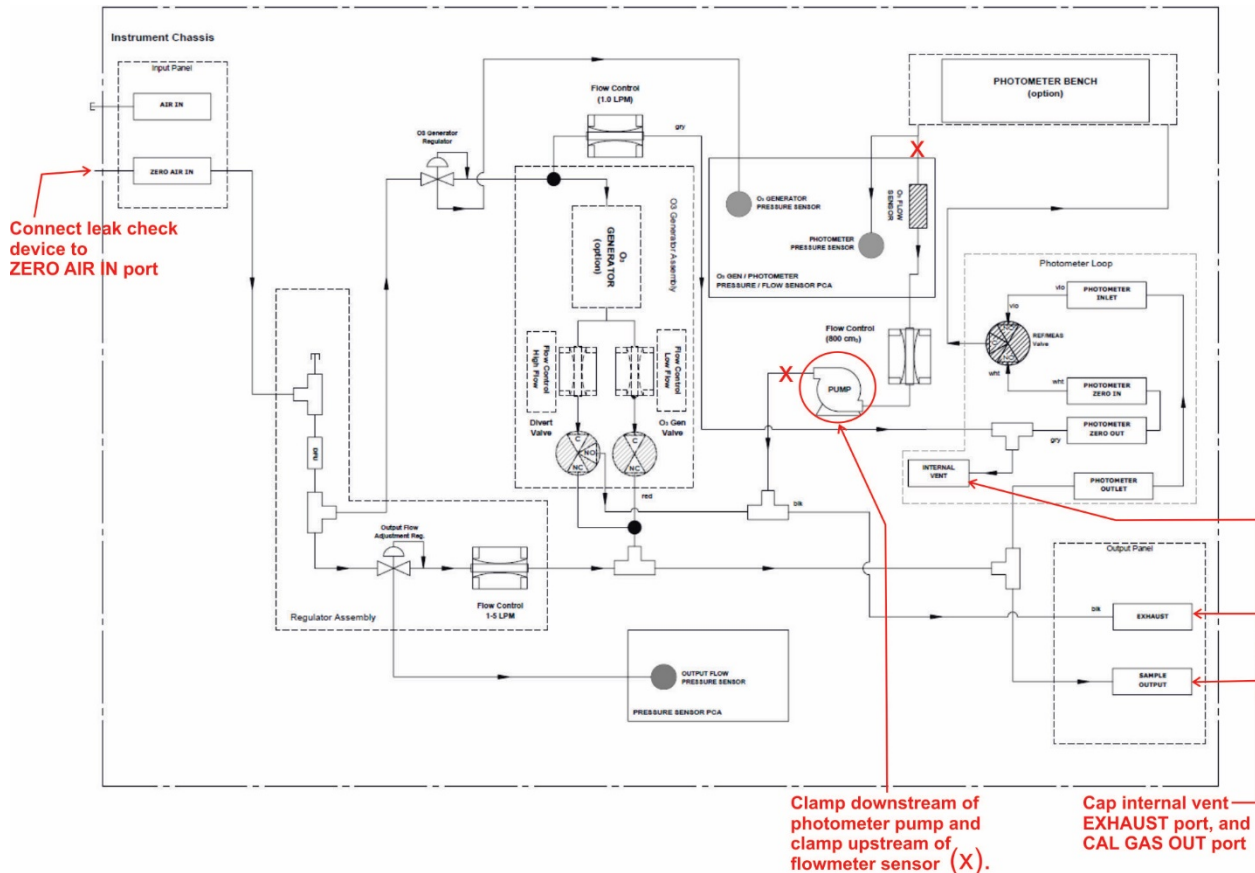
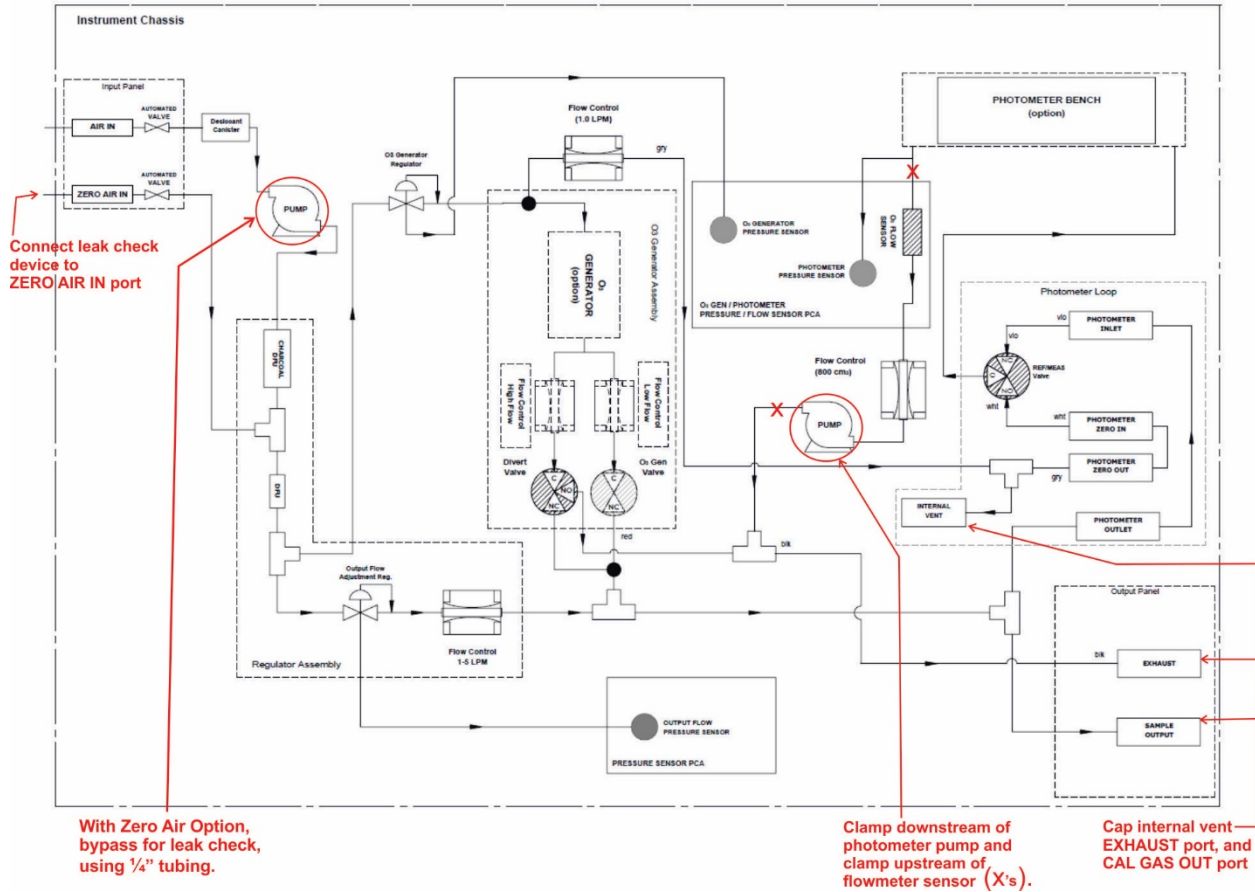

Figure 7-4: Leak Check Setup, Basic Pneumatics
Figure 7-5: Leak Check Setup, with Internal Zero Air Option
1. Place the calibrator in Standby mode and refer to Figure 7-4 and Figure 7-5 for pneumatic diagrams showing locations referenced herein.